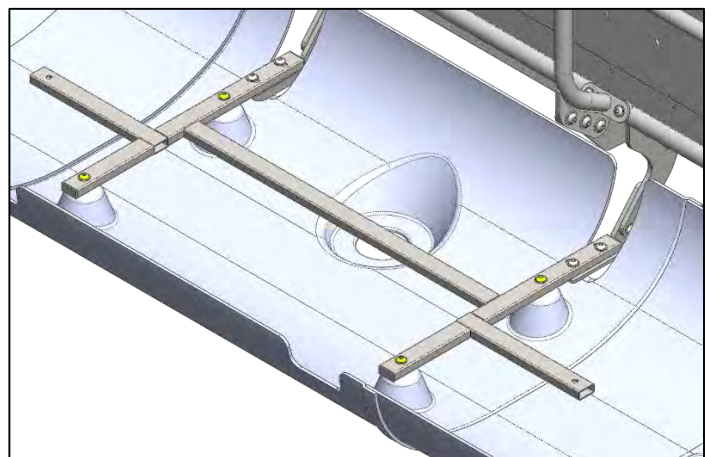

Fig. 5
- Offer up the drip tray to the underside of the frame and line up the holes. Secure in place using the M8x25 bolts, washers and nuts (highlighted in Fig.5). Ensure the drainage hole is towards the back of the shower stretcher, closer to the wall.